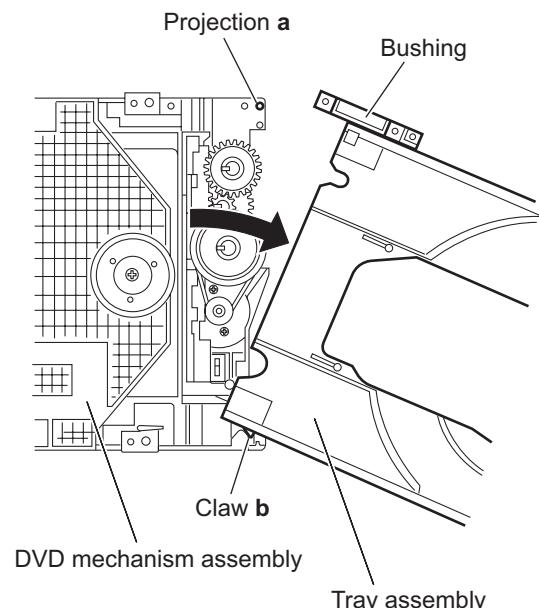

Fig.3
- Remove the bushing of the tray assembly from the projection **a** on the DVD mechanism assembly and move the tray assembly in the direction of the arrow. (See Fig.3.)
- Remove the claw **b** of the tray assembly from the DVD mechanism assembly and take out the tray assembly. (See Fig.3.)